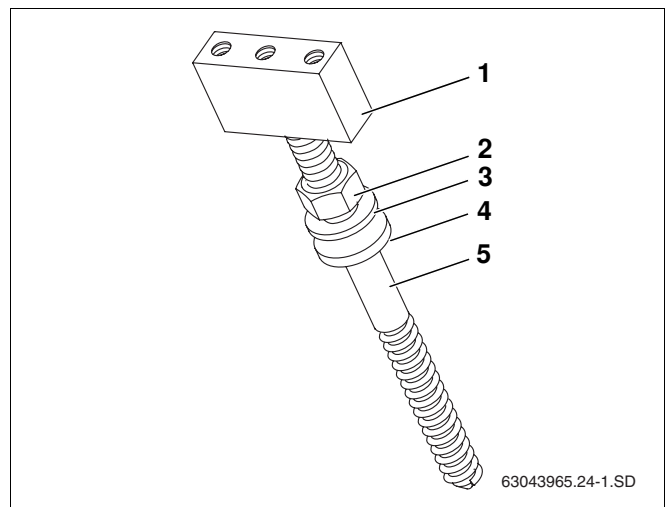

Fig. 23 Fitting the carriage bolts – sequence
- When fitting the carriage bolts, note the sequence of the individual parts (Fig. 23).
- Turn holding bracket (Fig. 23, **Item 1**) until it touches the carriage bolt (Fig. 23, **Item 5**).